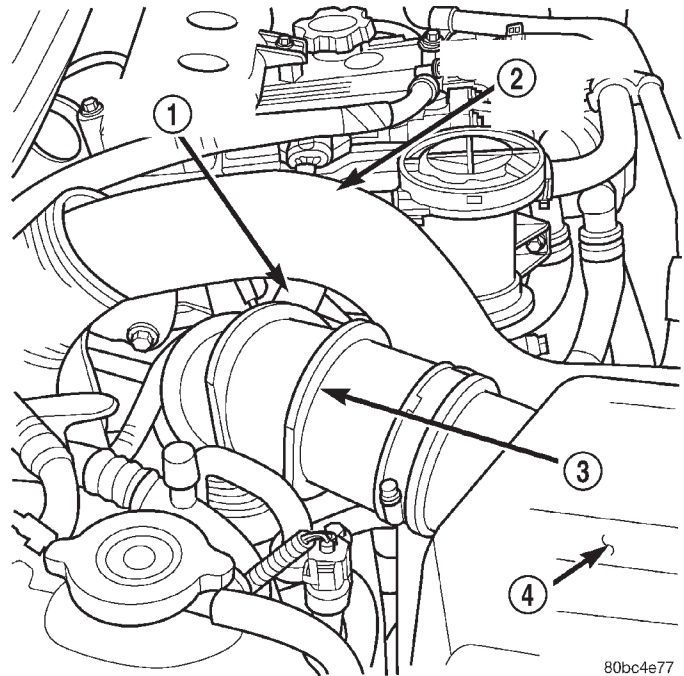

Fig. 9 Air Intake Hoses
(23) Disconnect the breather hose and remove the fresh air inlet tube from the vehicle (Fig. 9).
(24) Remove the radiator overflow hose from the radiator
(25) Remove the upper radiator hose from the vehicle.
(26) Disconnect the electric radiator cooling fan electrical connector.
(27) Recover the refrigerant. Refer to Group 24, Heating and Air Conditioning for the procedure.